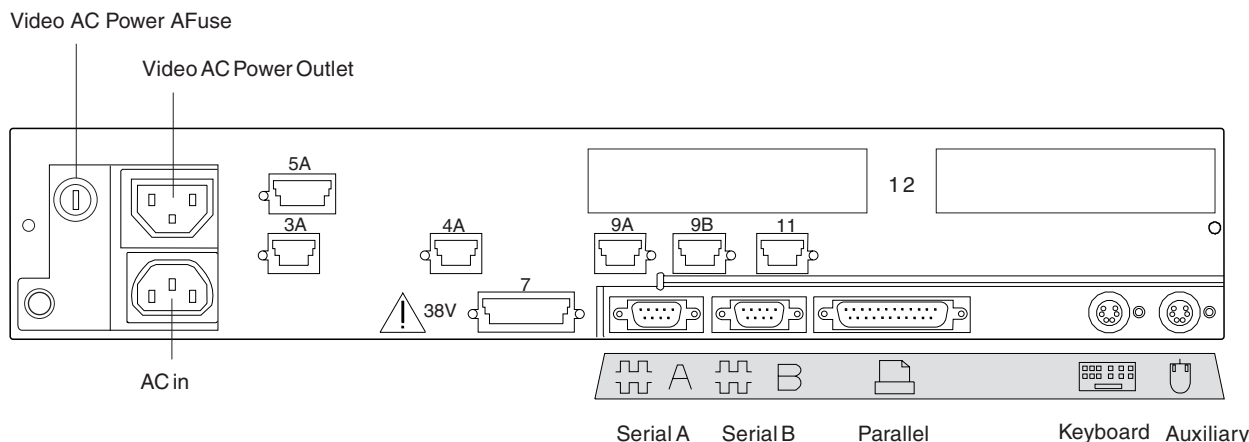

Figure 94. Rear of 4693-3x1 Point-of-Sale Terminal
7. Mark an X on Figure 94 on page 258 to indicate the sockets in which POS devices are connected: